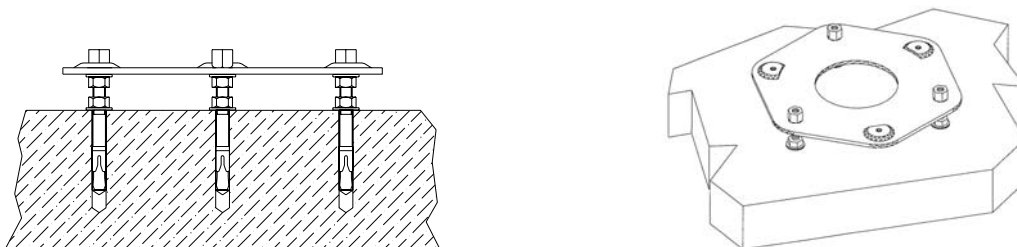

Fig.6
- Fix the plate with the three hexagonal nuts high (fig.6);